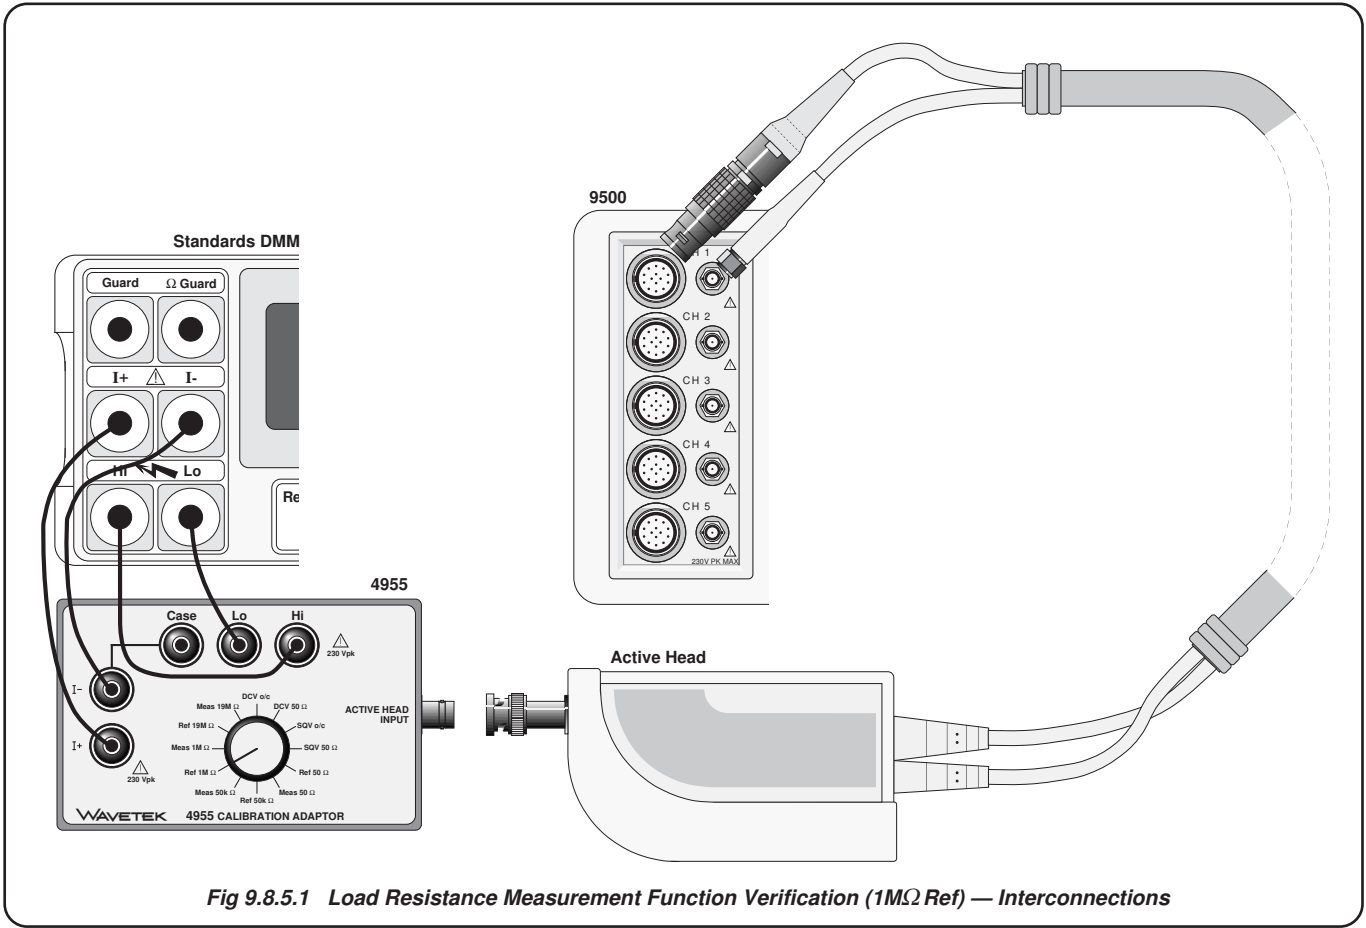

Fig 9.8.5.1 Load Resistance Measurement Function Verification (1MΩ Ref) — Interconnections
Refer to *Fig 9.8.5.1 (overleaf)*.
1. **Connections** Ensure that the 9500B is connected to the Standards DMM as shown in *Fig. 9.8.5.1*, or via a similar BNC-4mm adaptor and 50Ω load, and that both instruments are powered on and warmed up.